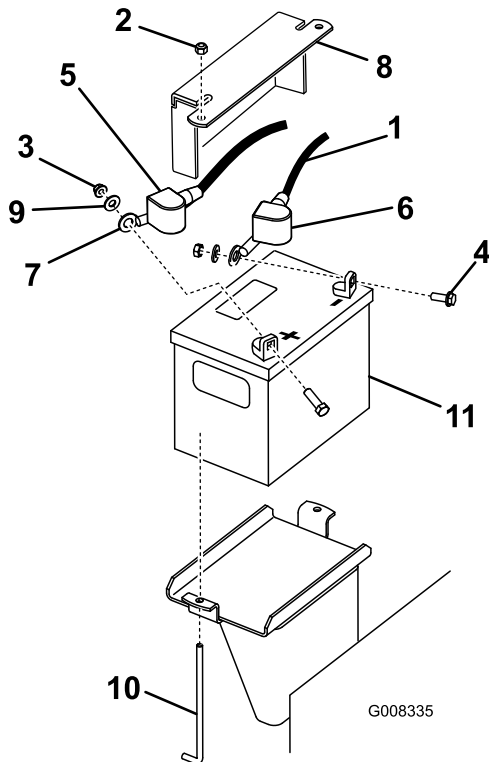

Figure 40
3. Lift the black rubber cover on the negative cable. Disconnect the negative battery cable from the negative (-) battery terminal (Figure 40).
4. Slide the red terminal boot off the positive (red) battery terminal. Then remove the positive (red) battery cable (Figure 40).
5. Remove the hold-down plate, J-bolts, and locknuts securing the battery (Figure 40). Remove the battery.
1. Using the fasteners previously removed, install the positive (red) battery cable to the positive (+) battery terminal (Figure 40).
3. Using the fasteners previously removed, install the negative (black) battery cable to the negative (-) battery terminal (Figure 40).
4. Secure the battery using the bar and wing nuts (Figure 40).